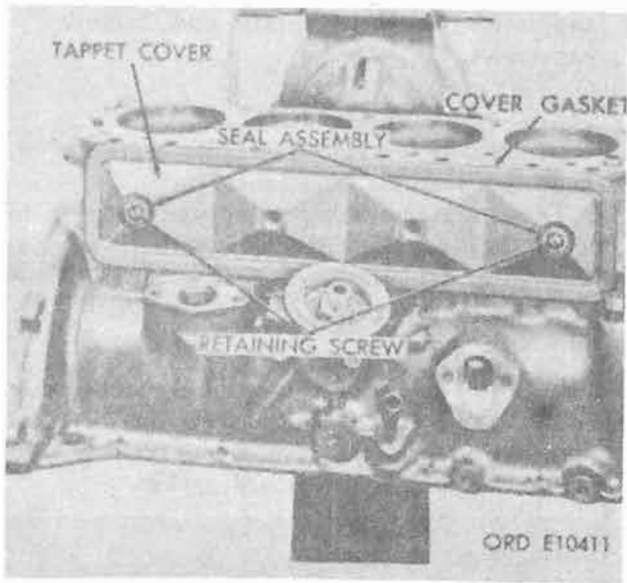

Figure 4-117. Tappet cover and gasket.
a. *Tappet Cover and Gasket.* Remove remaining two panhead screws and seal assemblies holding push rod cover to cylinder block. Remove tappet cover and gasket (fig. 4-117). Discard gasket and seal assemblies.